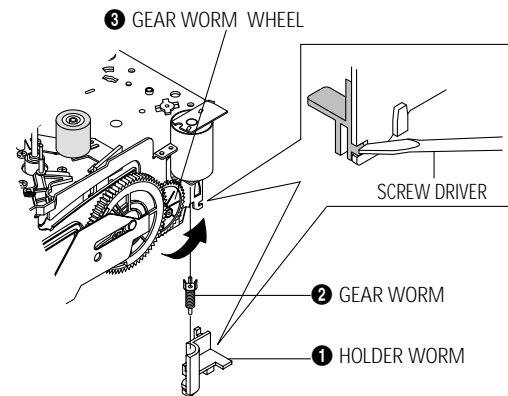

Fig. 4-35
- 4) Rotate Gear Worm Wheel ❸ counterclockwise using screw driver again up to the state of eject mode and then pick out the tape. (Refer to Fig. 4-35)